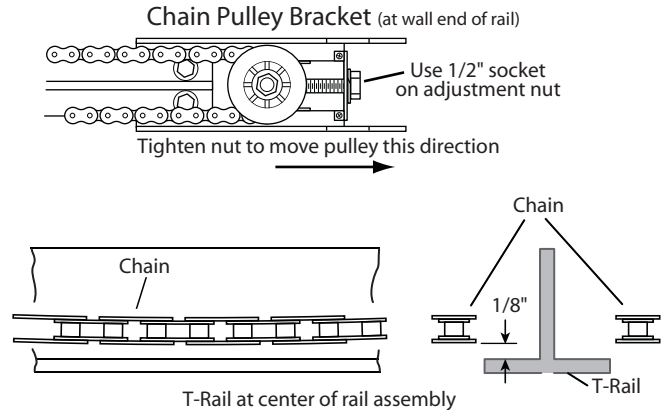

FIG. 1-3 Chain adjustment.
2. Tighten the chain by turning the adjustment nut clockwise. The chain adjustment nut is located in the Chain Pulley Bracket (opposite rail end from the power head) (Fig. 1-3).
3. Tighten chain until chain is approximately 1/8 inch above the base of the rail at midpoint on the rail (Fig. 1-3). Do not over tighten chain.